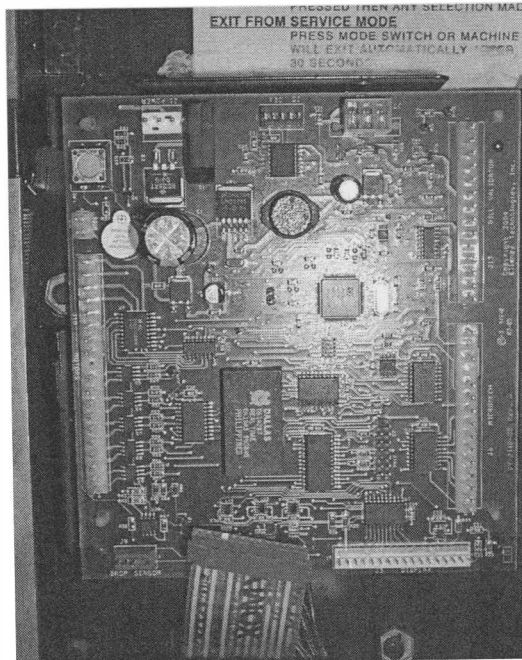

Figure 5.
5. Now, you may install the LCM Retrofit Controller, 10-0074-00, shown below in Figure 5. The same mounting standoffs will be used. Orient the LCM Retrofit controller so that the POWER, DEX, and MDB headers will be towards the top of the vending machine. Match the mounting holes from the controller to the four standoffs and push the board so that each standoff locks it into place.